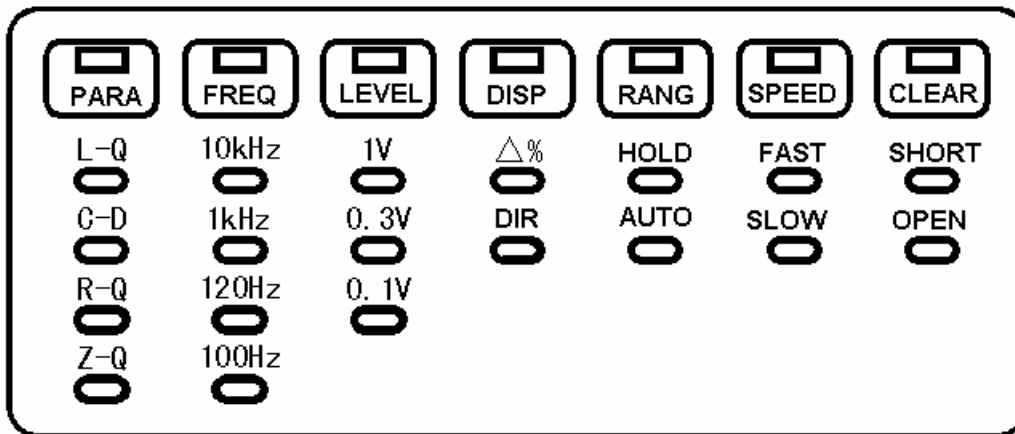

Figure 2-2. Status Indicator
1. "measurement" state: Functions are directly indicated on panel, as shown in Figure 2-2, and corresponding seven commonly-used functions can be controlled by operating the following cursor keys, \leftarrow , \rightarrow , \uparrow , \downarrow , **START**.
Function indications in “measurement” state are shown in Figure 2-2 on P2-1. All functions can be set through the four cursor keys, , , , and . Functions in each state include items of function and parameter. For example, “measurement parameter” and “measurement frequency” are function items; “L/Q”, “C/D”, “R/Q”, “Z/Q” are parameters corresponding to “measurement parameter”; and “100 Hz”, “120 Hz”, “1 kHz”, “10 kHz” are parameters corresponding to “measurement frequency”. Operate  and  cursor keys to select some function item and the corresponding indicator lamp is on; and then operate  and  cursor keys to select parameters in the function and the corresponding indicator lamp is on.